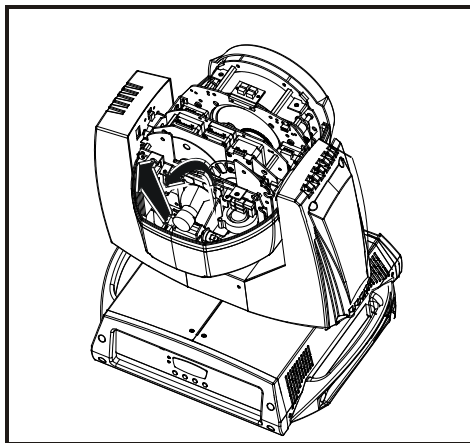

Figure 3
3. Lift the lamp out of its recess as Figure 3.